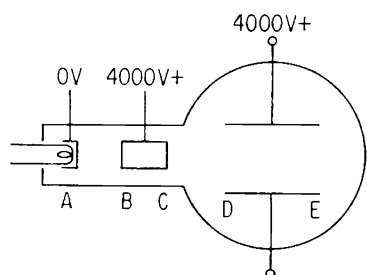

Fig. 15
14. In the electron deflection tube shown in Fig. 15, A represents the cathode, BC the anode and DE the deflecting plates, which are at the same potential as the anode. State where the electrons will be accelerating and where they will be travelling with a constant horizontal velocity.